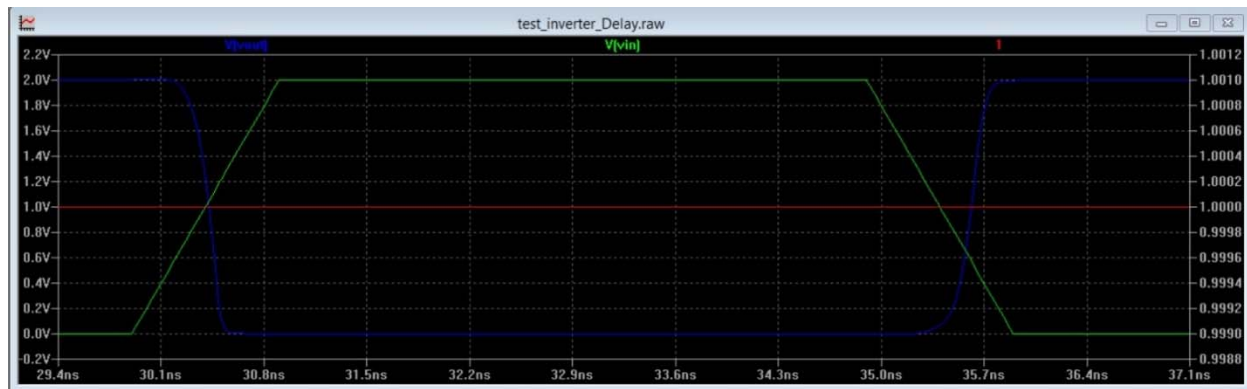

Figure 25. Waveforms after zoomed in
- D. Click , and then **draw a rectangle** over the last cycle of the waveforms with holding the **left button** of the mouse to enlarge the area. Now, it looks like Figure 25. It could be zoomed in further if necessary, for viewing the  $t_{pHL}$  and  $t_{pLH}$  clearly.